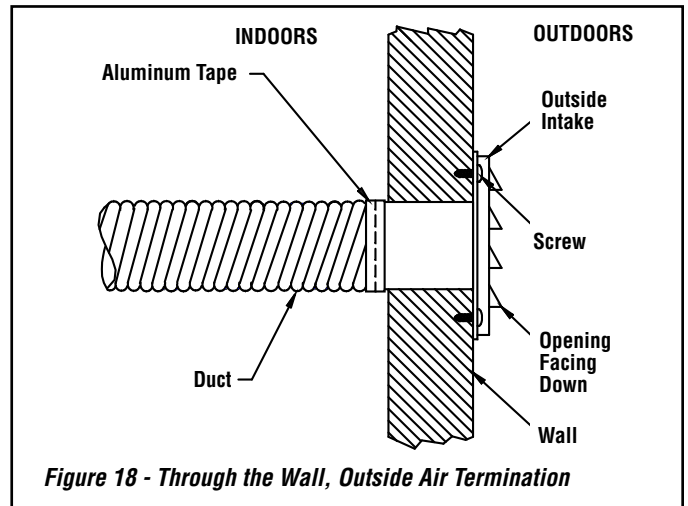

Figure 18 - Through the Wall, Outside Air Termination
- The air intake register must not be installed more than ten (10) feet (3050 mm) above the base of the stove.
- Make a 4-1/4" (110 mm) hole in the outside wall of the house at the chosen location. From outside, place the outside air register in the hole (open side down) and fasten the register to the wall, with screws as shown (*see Figure 18*).
- Attach the duct to the coupler on stove (*see Figure 18*). Using the aluminum tape provided, wrap the tape around the joint between the flexible duct and the air inlet.